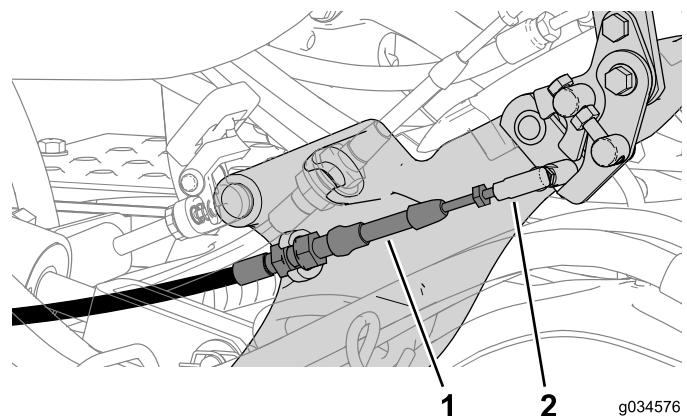

Figure 24
2. Connect the neutral-lock cable to the pedal shifter (Figure 24).